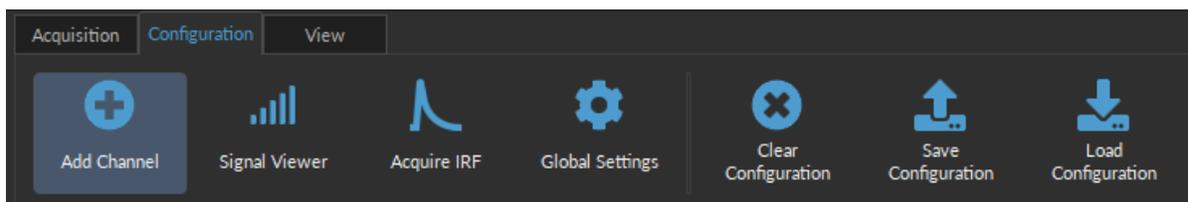

Figure 3.4: Add Channel to configure the *FluoPulse* system
2. Add and configure a measurement channel according to Doric Neuroscience Studio manual, Chapter 17. Briefly, select the *Add Channel* button (Fig. 3.4). This opens the *FluoPulse Configuration* pop-up window, where you can set the detector, triggering, and fitting options. In particular, make sure to specify the correct laser channel (E1, E2, or E3) that you will need for your experiment. We recommend starting with a low or moderate sampling rate (10 Hz).